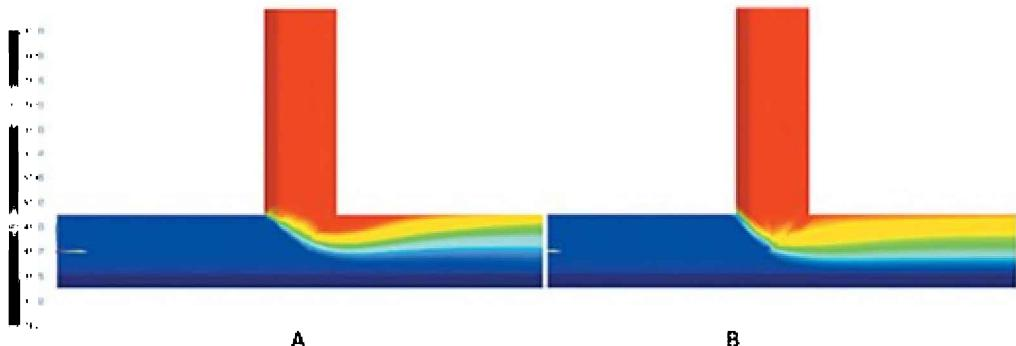

Figure 6.32. Temperature distribution for solutions results with automatic (A) and hexahedral (B) meshes
When the simulation finishes, load the results into the **Post Processing Navigator**. Figure 6.32 shows temperature distributions calculated for automatic (A) and hexahedral (B) meshes.